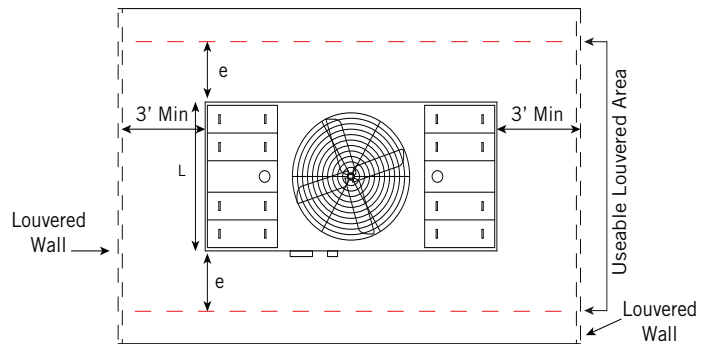

Figure 8. Plan View of Dual Air Intake Unit in Enclosure with Louvered Walls
- Units should be arranged within the enclosure such that the air intake directly faces the louver or slot locations as shown in **Figures 8** and **9**, with a minimum distance of three feet.
"e" - Distance usable louvered area may extend beyond unit length (L) as illustrated in **Figures 8 and 9**. The value for "e" is 1/2 the unit length (L), not to exceed 6'.